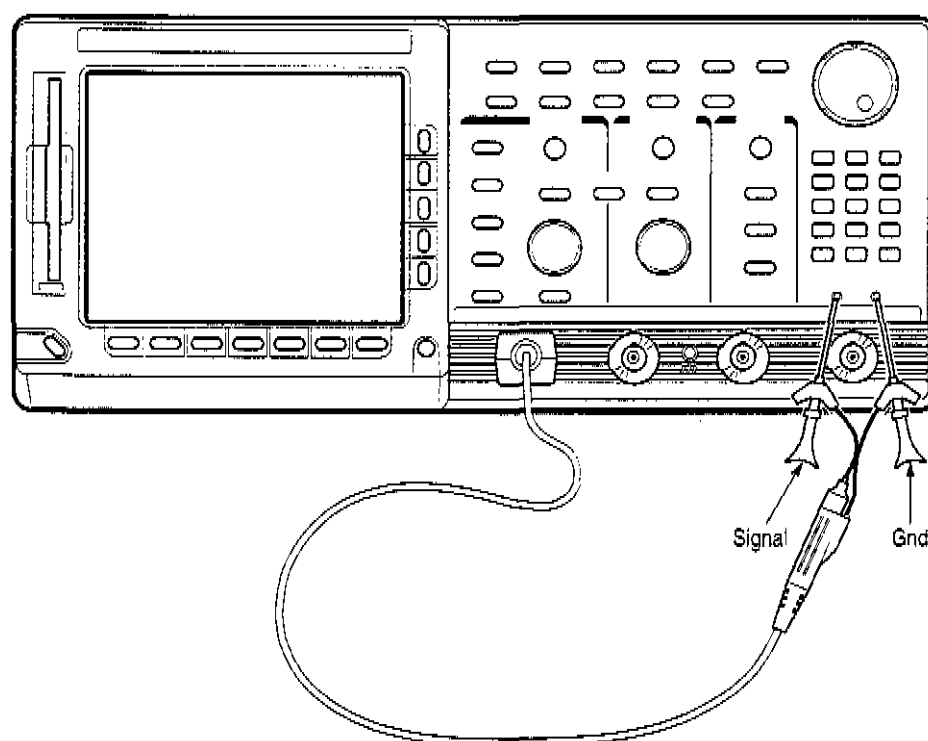

Figure 1-3: Universal Test Hookup for Functional Tests
- a. *Hook up the signal source:* Install the probe on **CH 1**. Connect the probe tip to **PROBE COMPENSATION SIGNAL** on the front panel; connect the probe ground (typically black) to **PROBE COMPENSATION GND**. If using a P6245 probe, you may want to attach a Y-lead connector and two SMD KlipChips as shown in Figure 1-3.
a. *Hook up the signal source:* Install the probe on **CH 1**. Connect the probe tip to **PROBE COMPENSATION SIGNAL** on the front panel; connect the probe ground to **PROBE COMPENSATION GND**. See Figure 1-3 on page 1-8.
- a. *Hook up the signal source:* Install the probe on **CH 1**. Connect the probe tip to **PROBE COMPENSATION SIGNAL** on the front panel; connect the probe ground to **PROBE COMPENSATION GND**. See Figure 1-3 on page 1-8.